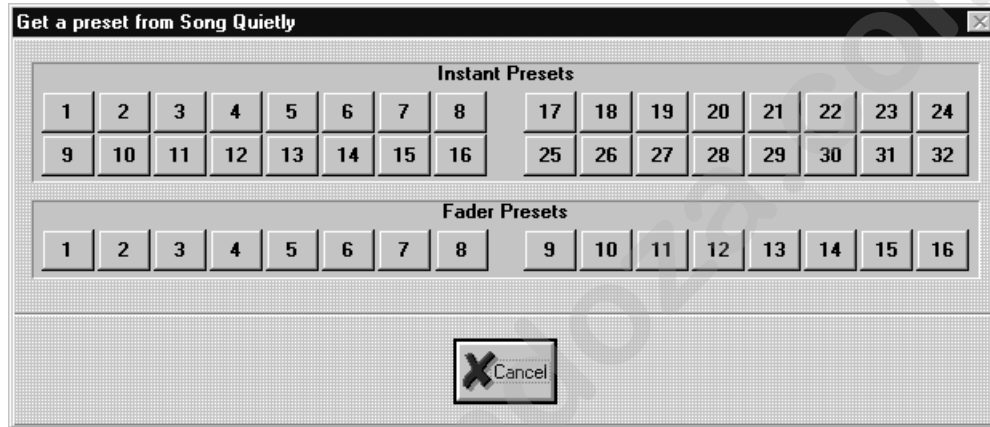

Figure 7.9. Get a Preset From Song Dialogue Box
1. Press the <GET> key in the SONG group (Figure 7.2) to bring up the **Get a preset from Song** dialogue box (Figure 7.9). Alternately, select **Get Preset** from the **Song** drop-down menu.
2. Press the desired key in the SYSTEM KEYS/INSTANT PRESETS group (Figure 7.4) or FADER PRESET group (Figure 7.5) on the Console to get the Scene or Sequence from the Preset. The Scene or Sequence will be opened on the desktop. Alternately, click the desired Preset in the **Get a preset from Song** dialogue box (Figure 7.9).